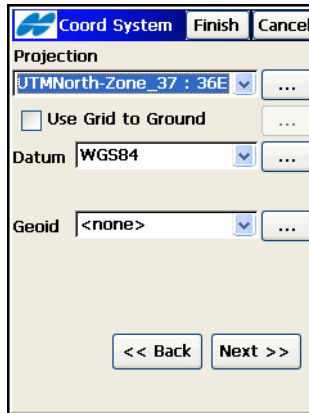

Figure 2-5. Coordinate System
- **Next** – opens the **Coordinate Systems** screen (Figure 2-5 on page 2-5).
The *Coordinate System* screen (Figure 2-5) contains coordinate system information for the new job.